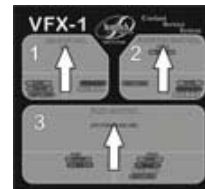

Figure 1
- 1) Verify all control panel valves are in neutral position. (*Fig 1*) Turn both flow control valves at hose end OFF.